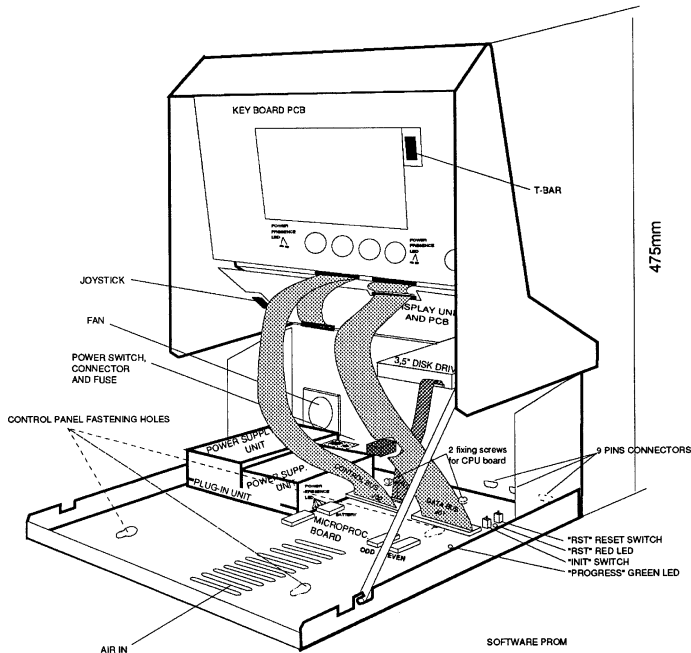

Fig. 8 : Open Control Panel
The Control Panel of the **9200** Mixer can be placed, fixed by 3 screws (see fig.8) or inserted into a console, using the optional rack mounting kit allowing three different insertion positions: see fig.6A, B, C.
- 3) Disconnect and remove the CPU card (see fig. 8).